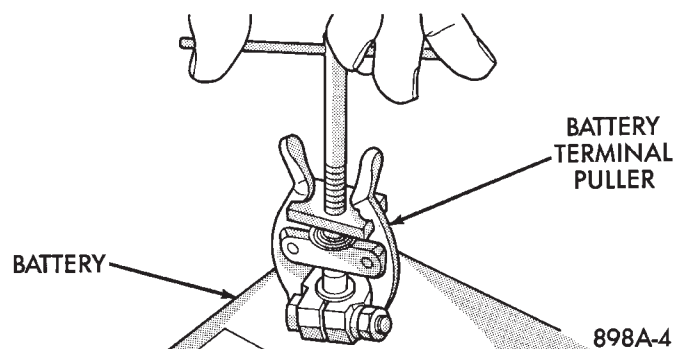

Fig. 16 Remove Battery Terminal Clamp - Typical
(1) Turn the ignition switch to the Off position. Make sure all electrical accessories are turned off.
(2) Loosen the cable terminal clamps and disconnect both battery cables, negative cable first. If necessary, use a puller to remove the terminal clamps from the battery posts (Fig. 16).